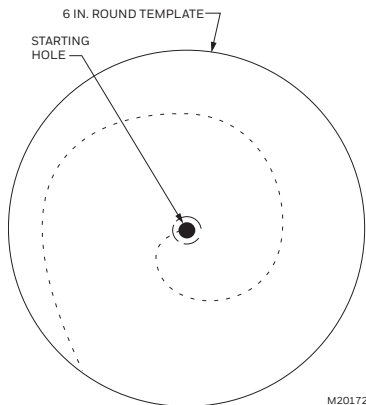

Fig. 6. Cutting bypass opening.
10. Carefully cut the opening for the 6 in. (155 mm) starter collar end of the flex duct. See Fig. 6. Use a drill to start the cut in the middle of the circle. Cut in an outward spiral to assist in controlling the cut.